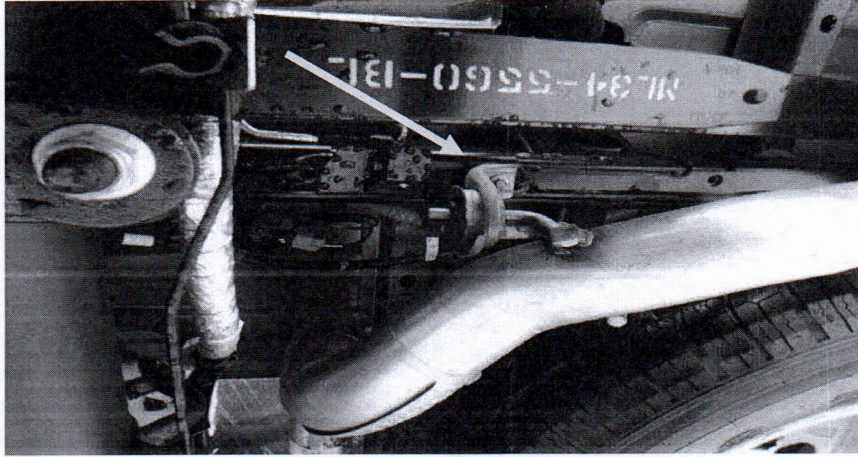

Figure.3
7. Remove the (x2) bolts from the left and right tailpipe hangers at the frame rails. **Fig.3**